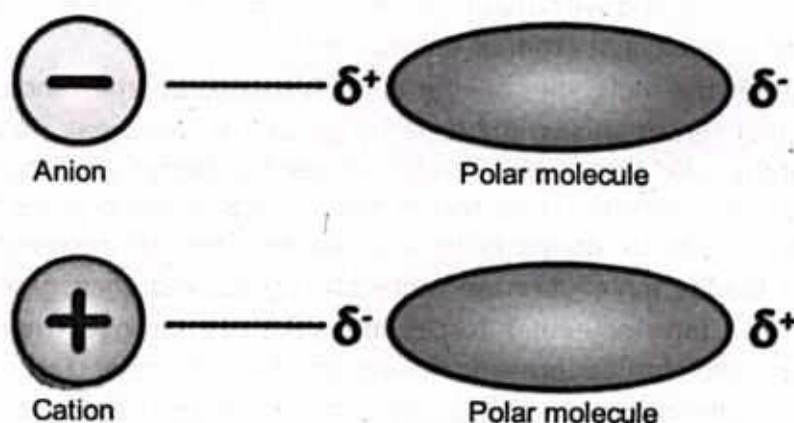

Fig.7.6: Ion-dipole interaction
- c. Ion dipole forces are between polar molecules and the free ions. In this case the negative ion (anion) is attracted by the positive end of the dipole and the positive ion (cation) is attracted by the negative end of the dipole as shown here in figure 7.6.